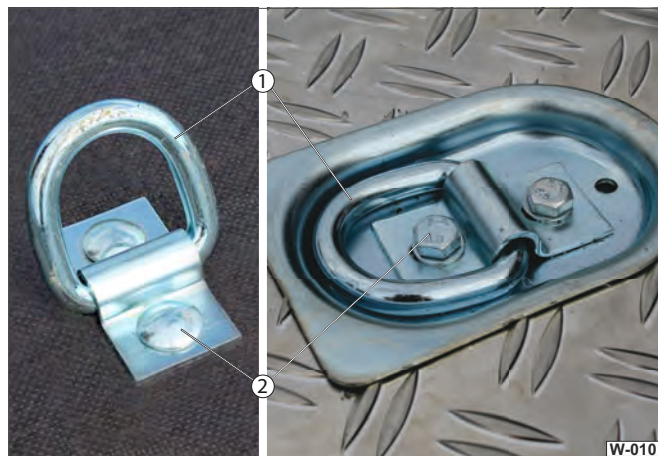

Fig. 10 Check tie-down points (optional)
- ▶ Regularly check (at least every 6 months) the tie-down rings (Fig. 10 /1) for cracks, distortion, deformation.
- ▶ Regularly check (at least every 6 months) the screw connections (Fig. 10 /2) are securely fastened.